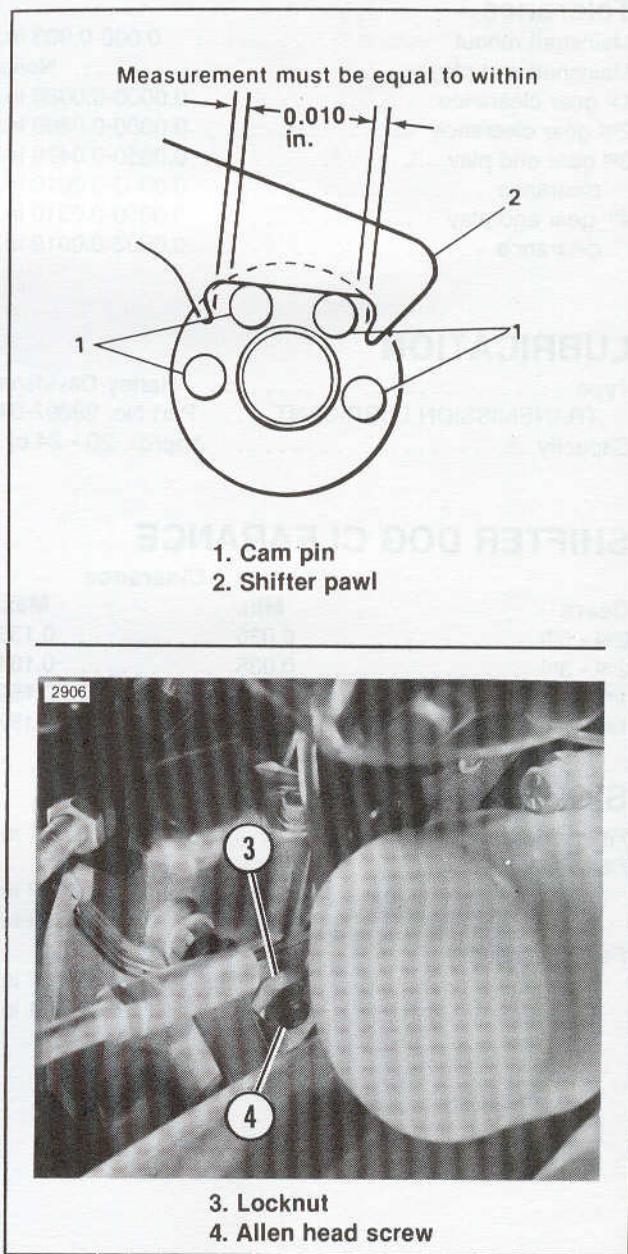

Figure 7-2. Gear Engagement Adjustment
Gear Engagement Adjustment (Figure 7-2)
See Figure 7-2. The spring pressure you feel defines the limits of travel of the shifter pawl (2) against the cam pins (1).
3. Loosen jamnut (3) and adjust allen screw (4) in 1/4 in. turn increments or less (either clockwise or counterclockwise) until spring pressure and free play is equal on both sides of shift lever travel.
4. Recheck adjustment after tightening locknut (3).